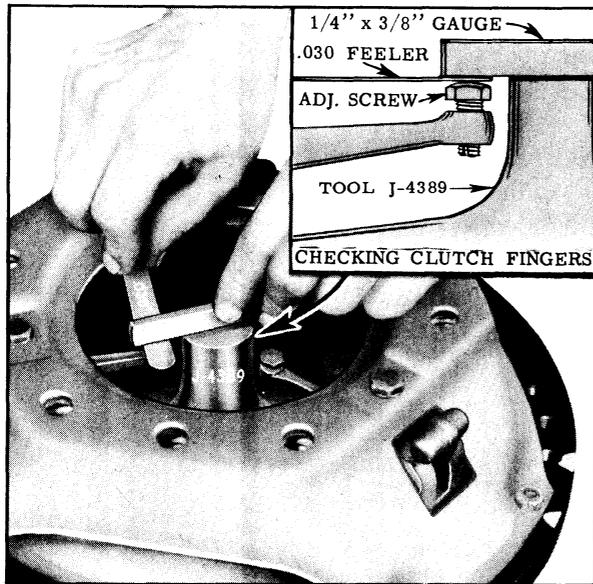

Fig. 10-8 Adjusting Clutch Levers
4. Lay a short straightedge across the center boss of the gauge as a guide for positioning clutch levers. (See Fig. 10-8)